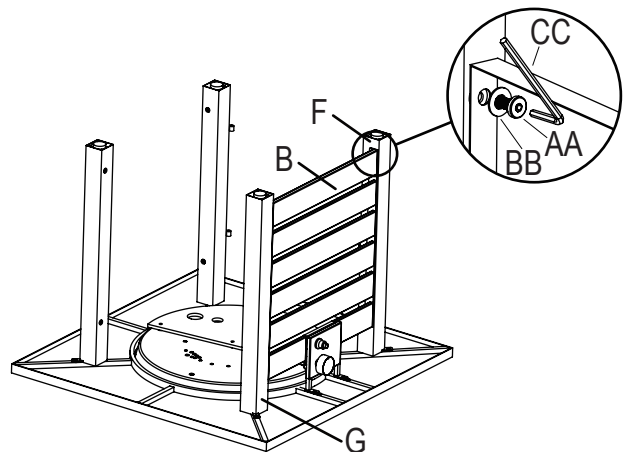

Figure 3
3. Attach front panel (B) to front-left leg (G) and front-right leg (F) with bolts (AA) and washer (BB) using hex screw driver (CC), (see Figure 3).